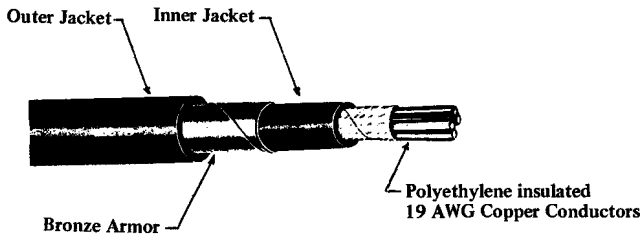

FIGURE 1
2.02 B service wire, illustrated in Figure 1, consists of four 19 AWG solid copper conductors, individually insulated with high density, colored polyethylene.